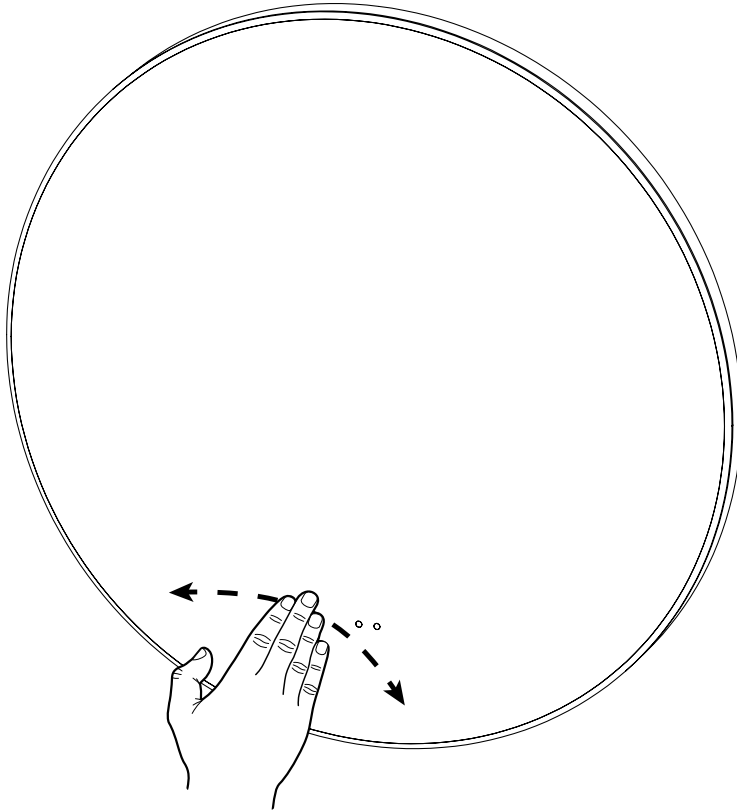

Fig 3. - Operation
1. Wave hand past the sensor switch located under the bottom right of the mirror, see Fig. 3.